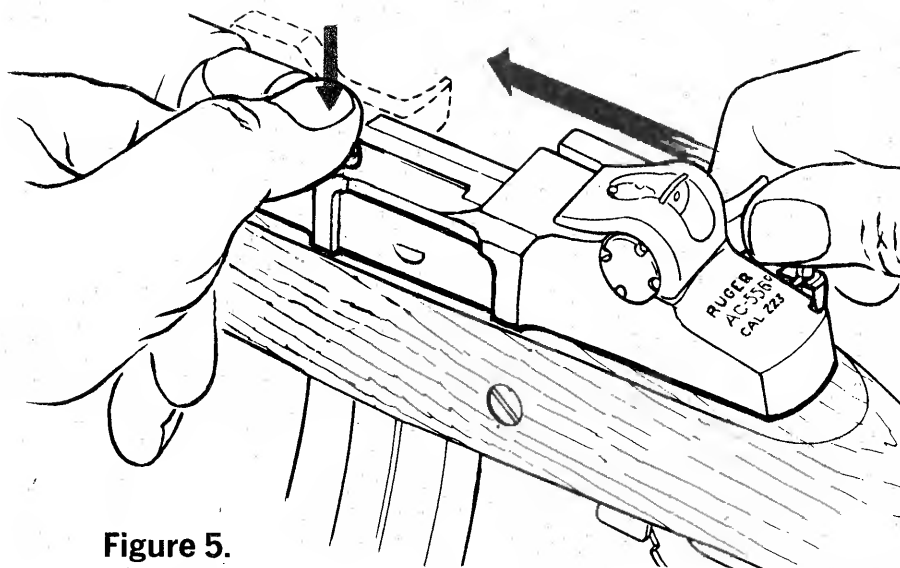

Figure 5.
2. Depress the bolt lock plunger as shown in Figure 5 and allow the slide to move forward until it stops.